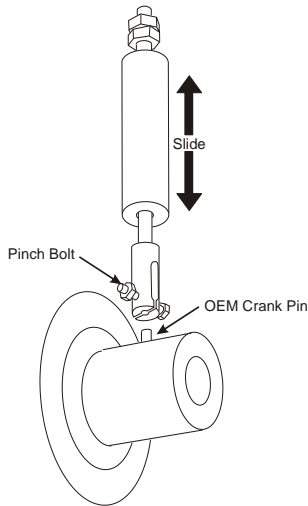

Figure 2.7
- ☐ Remove the crankshaft pin using the VMAC extraction tool(Figure 2.7):